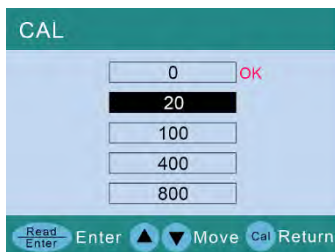

Figure 8.2
- f) Press **MEAS ENTER** to start 0 NTU calibration. After calibration is done, the instrument will return to the calibration menu (see Figure 8.2). The “OK” sign indicates that the 0 NTU has been calibrated and prompt to calibrate 20 NTU.